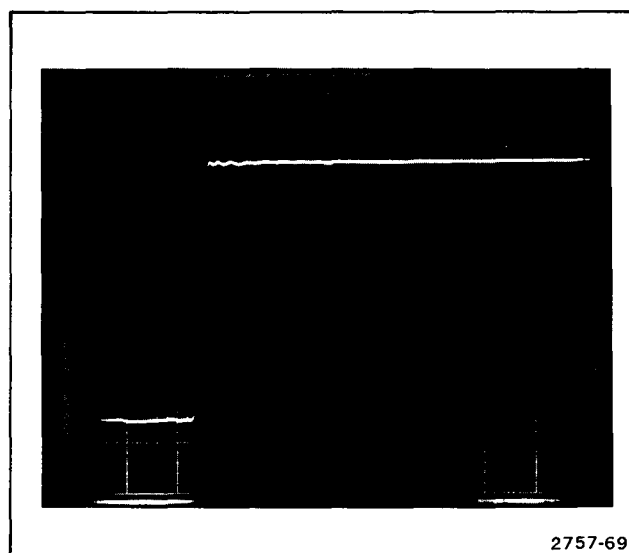

Figure 5-1. Typical display when high-frequency compensation is correctly adjusted.
e. CHECK—Flat-top display aberrations are within 4% ( $\pm 0.2$  div). See Figure 5-1 for typical display.
c. CHECK—Flat-top display aberrations are within 4% ( $\pm 0.2$  div). See Figure 5-1 for typical display.